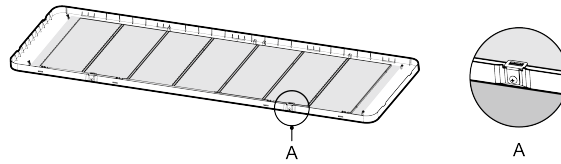

Fig.4.5.7
- (5) Tighten the two “L”-shape metal sheet in the accessories on the grille with screws, please refer to Fig.4.5.7
- (6) Install it to the air inlet grille and buckle it.
- (7) Install the air inlet grille and then lock the clasp.
- (8) Tighten the screw until the thickness of sealing material between panel and indoor unit is about 5~8mm(3/16~5/16inch).